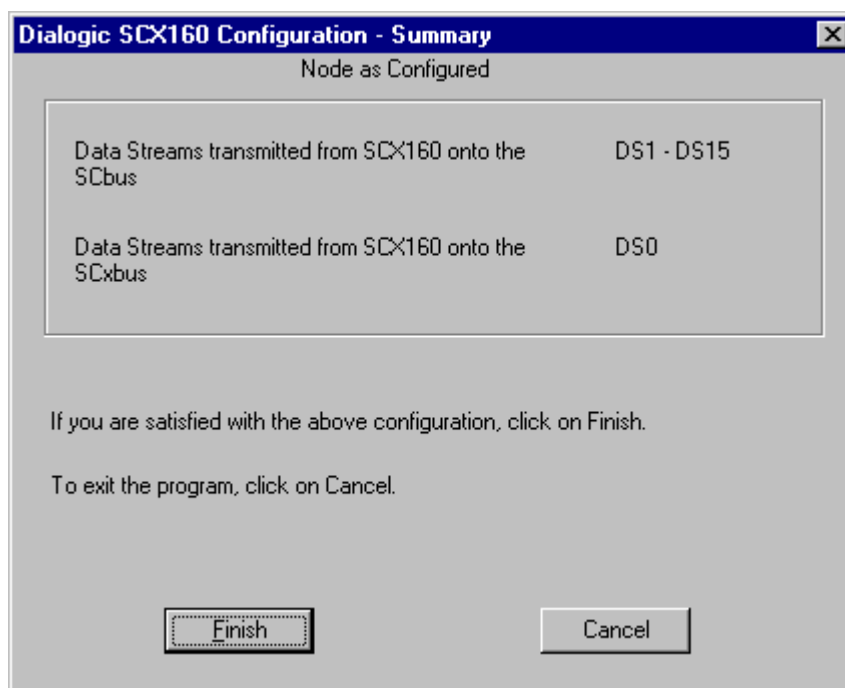

Figure 33. Summary Window (Non-Blocking Configuration)
14. Click on the **Next>** button to proceed. This opens the *Summary Window (Non-Blocking Configuration)* window (Figure 33).
15. The configuration values listed in *Figure 33. Summary Window (Non-Blocking Configuration)* are:
16. Review the summary information displayed (*Figure 33. Summary Window (Non-Blocking Configuration)*) and either: